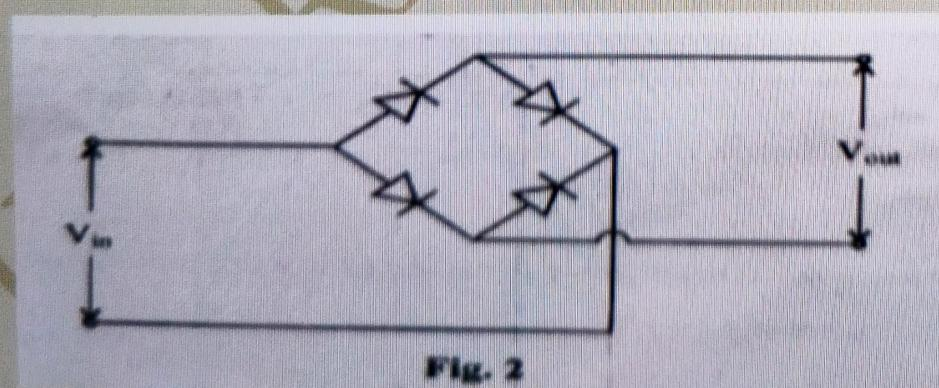

Fig. 2
- 18. Identify the circuit shown in Fig. 2 and explain working with input-output waveforms for a sinusoidal input.**